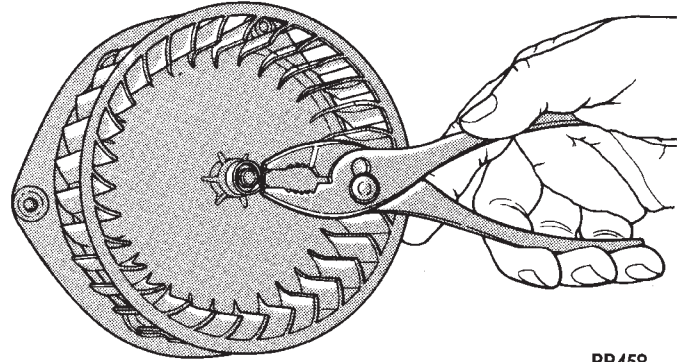

Fig. 5 Blower Wheel Retaining Ring Removal and Installation
- (1) Remove the spring type retaining ring from the center of the blower wheel (Fig. 5). Note the location of the blower wheel on the blower motor shaft.